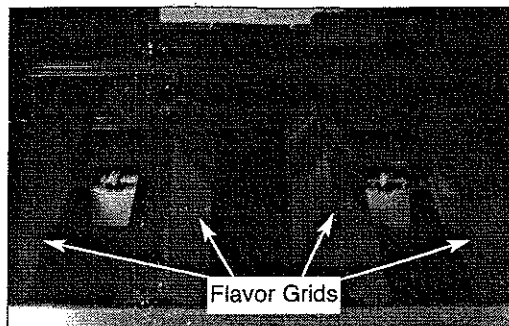

Fig 3
3. Remove cooking grates and flavor grids. (See Fig. 3)
27. Reinstall the flavor grids. (See Fig. 3 on page 2)